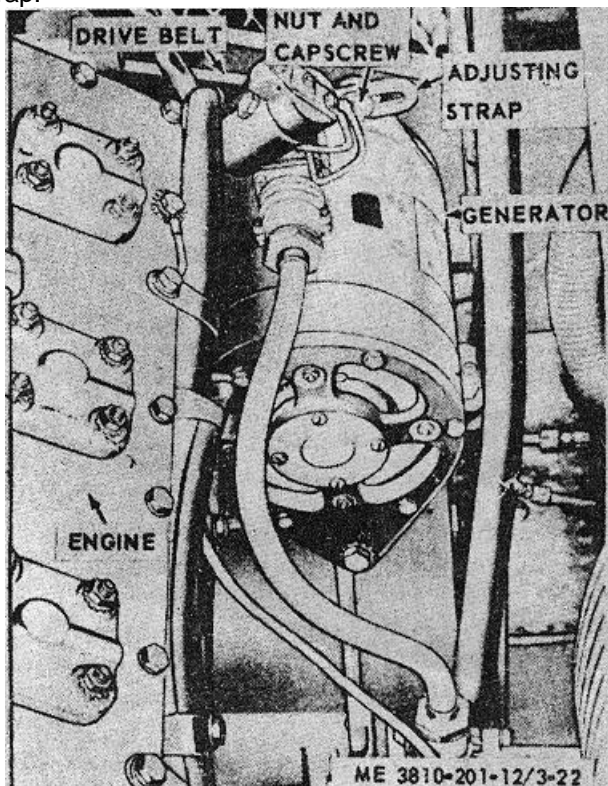

Figure 3-17. Generator drive belt adjustment.
a. Loosen nut and capscrew (fig. 3-17) on adjusting strap.